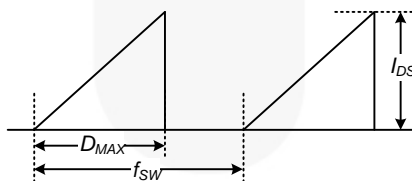

Figure 4. Repetitive Peak Switching Current
- Repetitive peak switching current when the inductive load is assumed: Limited by maximum duty (D_{MAX}=0.74) and junction temperature (see Figure 4).